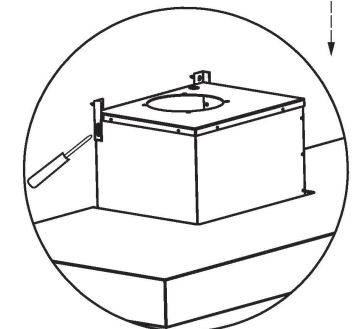

Fig.6-3
9. Adjust the hangers on two sides of range hood and hang it to sleeve anchors. Tighten the nut of sleeve anchor. (Fig.6-3)